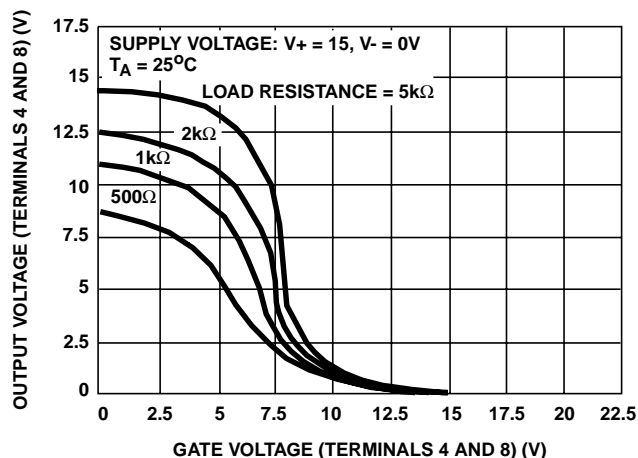
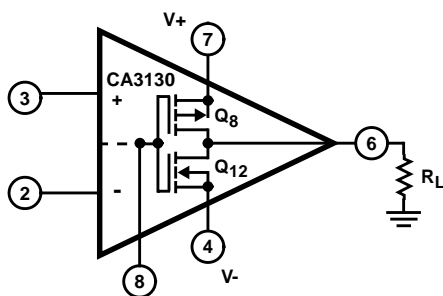

FIGURE 2. VOLTAGE TRANSFER CHARACTERISTICS OF CMOS OUTPUT STAGE
FIGURE 6A. DUAL POWER SUPPLY OPERATION
The output stage consists of a drain-loaded inverting amplifier using CMOS transistors operating in the Class A mode. When operating into very high resistance loads, the output can be swung within millivolts of either supply rail. Because the output stage is a drain-loaded amplifier, its gain is dependent upon the load impedance. The transfer characteristics of the output stage for a load returned to the negative supply rail are shown in Figure 2. Typical op amp loads are readily driven by the output stage. Because large-signal excursions are non-linear, requiring feedback for good waveform reproduction, transient delays may be encountered. As a voltage follower, the amplifier can achieve 0.01% accuracy levels, including the negative supply rail.
Because the CA3130 is very useful in single-supply applications, it is pertinent to review some considerations relating to power-supply current consumption under both single-and dual-supply service. Figures 6A and 6B show the CA3130 connected for both dual-and single-supply operation.
**Single-supply Operation:** Initially, let it be assumed that the value of  $R_L$  is very high (or disconnected), and that the input-terminal bias (Terminals 2 and 3) is such that the output terminal (No. 6) voltage is at  $V+/2$ , i.e., the voltage drops across  $Q_8$  and  $Q_{12}$  are of equal magnitude. Figure 20 shows typical quiescent supply-current vs supply-voltage for the CA3130 operated under these conditions. Since the output stage is operating as a Class A amplifier, the supply-current will remain constant under dynamic operating conditions as long as the transistors are operated in the linear portion of their voltage-transfer characteristics (see Figure 2). If either  $Q_8$  or  $Q_{12}$  are swung out of their linear regions toward cut-off (a non-linear region), there will be a corresponding reduction in supply-current. In the extreme case, e.g., with Terminal 8 swung down to ground potential (or tied to ground), NMOS transistor  $Q_{12}$  is completely cut off and the supply-current to series-connected transistors  $Q_8$ ,  $Q_{12}$  goes essentially to zero. The two preceding stages in the CA3130, however, continue to draw modest supply-current (see the lower curve in Figure 20) even though the output stage is strobed off. Figure 6A shows a dual-supply arrangement for the output stage that can also be strobed off, assuming  $R_L = \infty$  by pulling the potential of Terminal 8 down to that of Terminal 4.
Let it now be assumed that a load-resistance of nominal value (e.g.,  $2k\Omega$ ) is connected between Terminal 6 and ground in the circuit of Figure 6B. Let it be assumed again that the input-terminal bias (Terminals 2 and 3) is such that the output terminal (No. 6) voltage is at  $V+/2$ . Since PMOS transistor  $Q_8$  must now supply quiescent current to both  $R_L$  and transistor  $Q_{12}$ , it should be apparent that under these conditions the supply-current must increase as an inverse function of the  $R_L$  magnitude. Figure 22 shows the voltage-drop across PMOS transistor  $Q_8$  as a function of load current at several supply voltages. Figure 2 shows the voltage-transfer characteristics of the output stage for several values of load resistance.